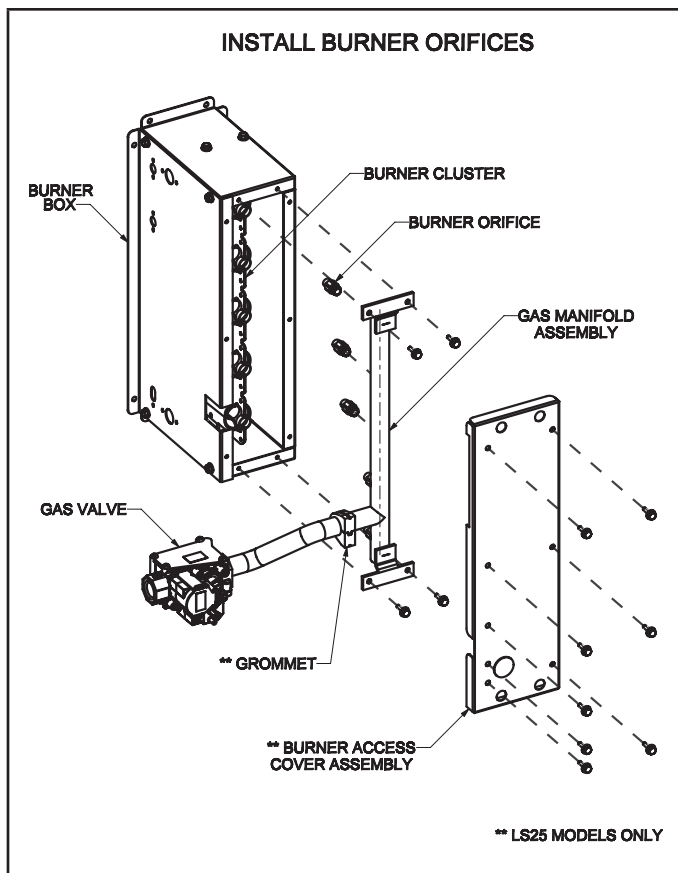

Figure 1
- 5 - *LS25 Only* - Remove the burner access cover. See figure 1